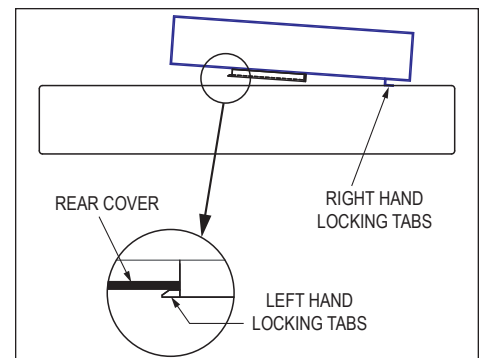

FIGURE 2
5. Refer to Figure 2. Insert the KVM Remote Module into the opening of the rear panel by sliding the right hand locking tabs in all the way to the right. Then, press down firmly and slide the KVM Remote Module to the left until it stops with both left hand locking tabs securely inside the rear panel.